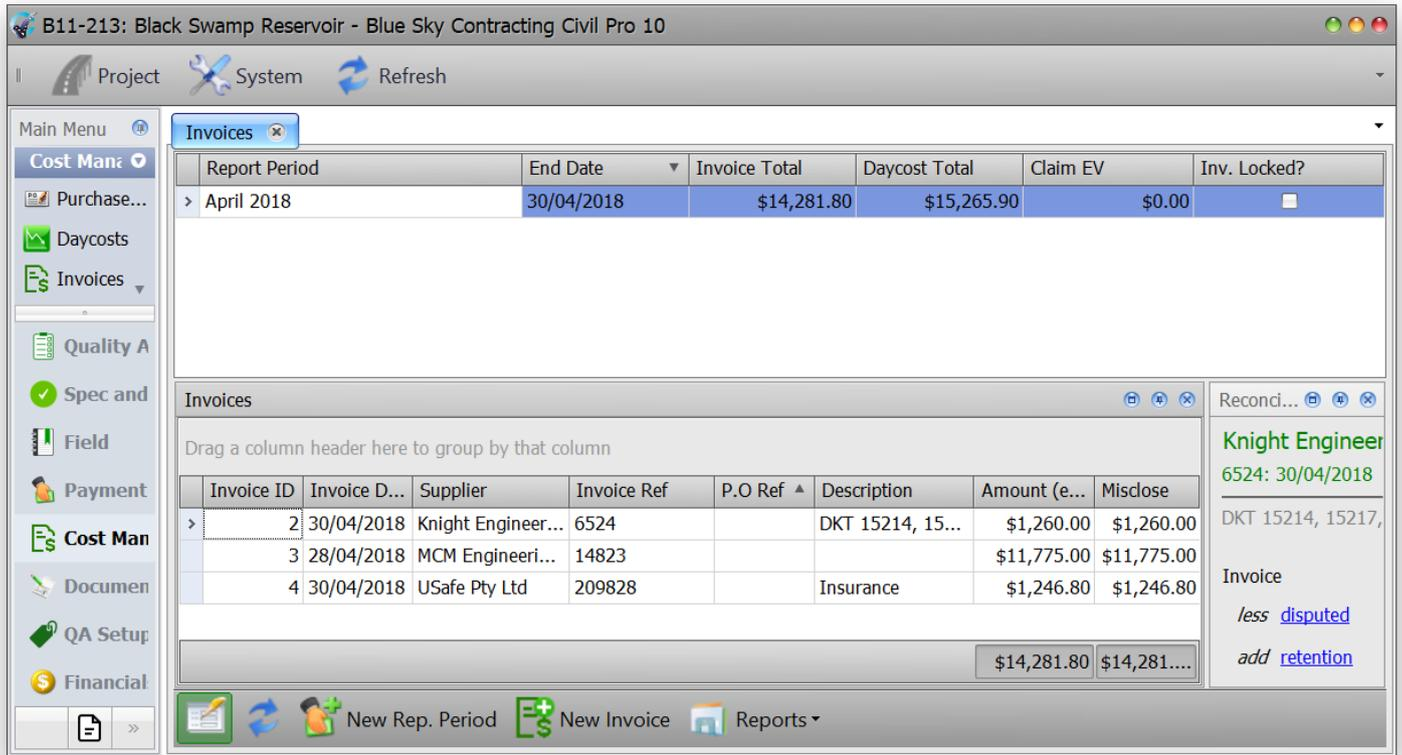

Figure 73 Post manual entry Invoices Register
- Enter the remaining invoices using the same process as described. When done the Invoices screen should look like that in Figure 73 below.